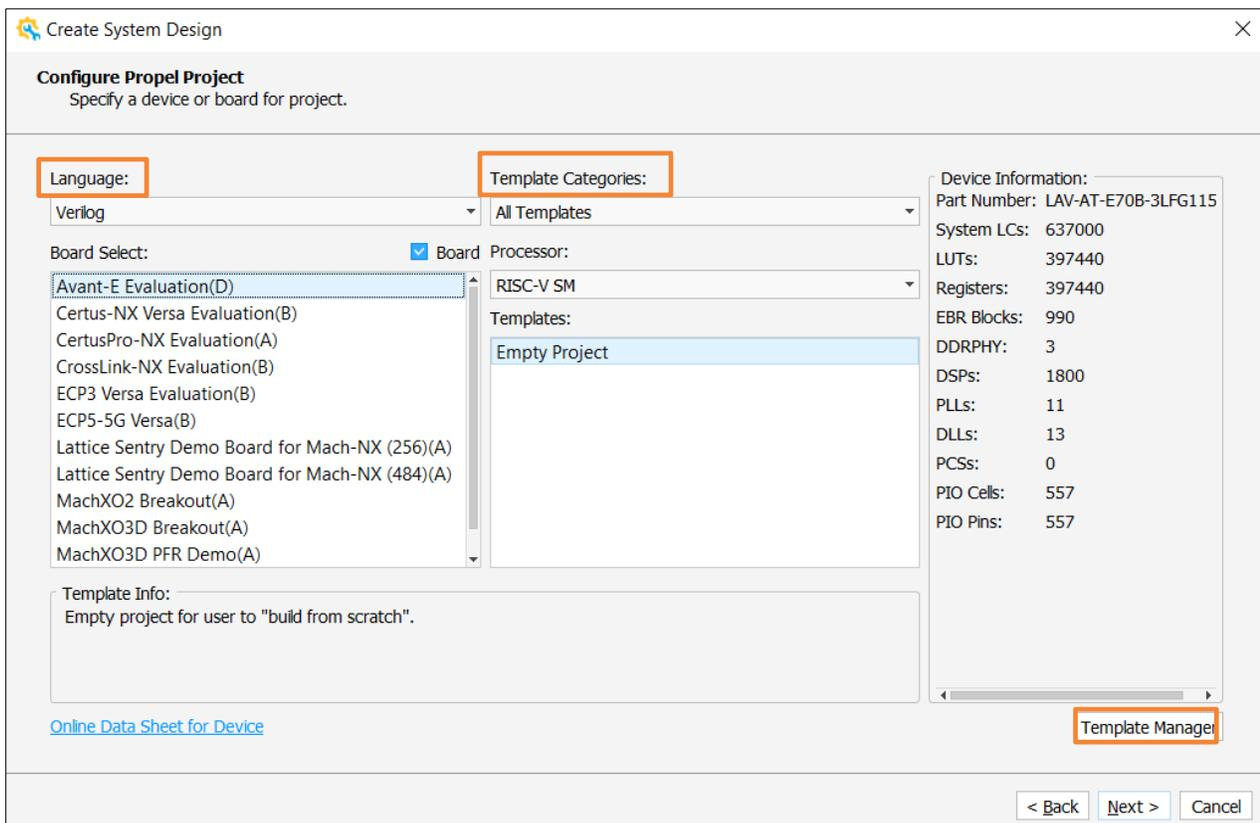

Figure 2.31. Specify a Board for Template SoC Project (2)
7. The Configure Propel Project wizard is shown in Figure 2.31. From the Board Select area, select the desired board.